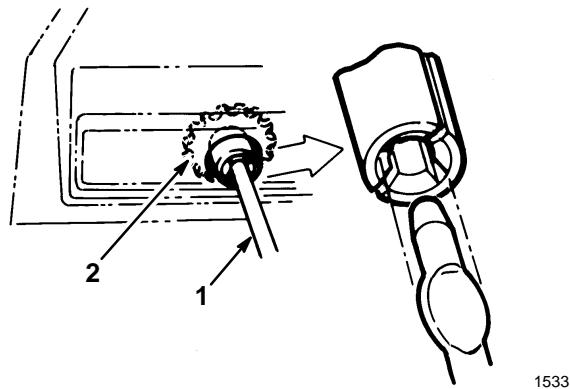

Figure 3
2. Secure deflector to discharge chute with (2) 5/16-18 carriage bolts, metal washers, and locknuts. Make sure the square shoulders on the carriage bolts align with inside square on discharge chute. Position metal washers to the outside of deflector as shown in Figure 3. DO NOT OVERTIGHTEN BOLTS.